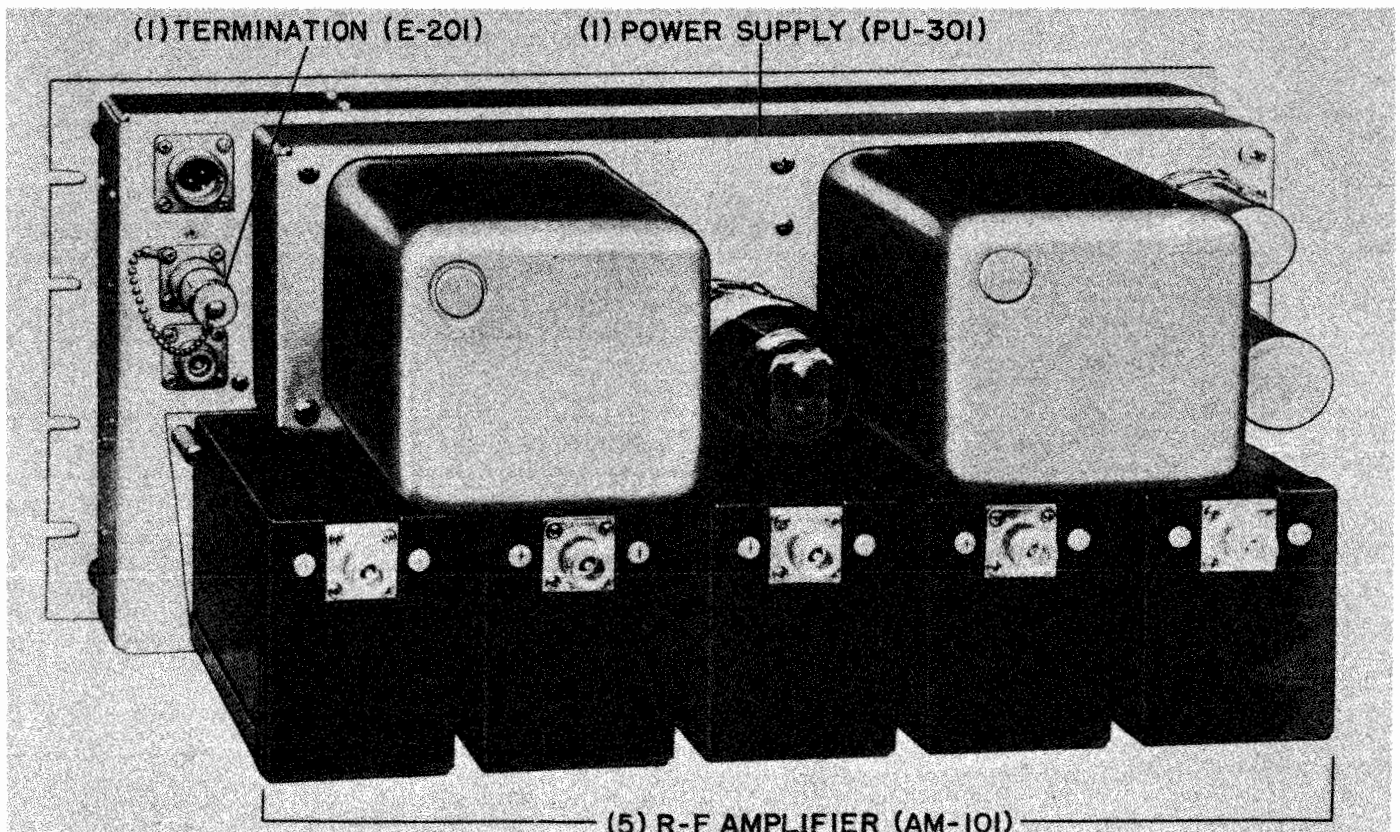

Figure 1-2. Antenna Coupler CU-168/FRR, Rear Oblique View
equipment. The front of the panel is finished in standard Navy gray enamel. Other chassis parts, with the exception of the r-f amplifiers, are finished in clear water-dip lacquer. The panel forms the cover of the main chassis, which in turn supports a number of plug-in subassemblies (see figure 1-2).
b. Each of the five r-f amplifiers (see figure 1-2) contains four type 12AU7 double-triode amplifier tubes and related components. Electrical connections are made when the amplifiers are mounted on the main chassis and secured with two captive screws. Connections to the communications receivers are made through the r-f connectors on the rear of each amplifier. Each amplifier has a dust cover which can be removed without interrupting operation of the equipment. The covers are finished in dull black lacquer. They are secured by two dzus fasteners located near jack J-101. The covers may be removed without interrupting operation of the equipment.
c. The power supply subassembly (see figure 1-2) contains a power transformer, type 5U4G rectifier tube, filter, and related components. The subassembly is retained on the main chassis by means of six captive screws. Electrical connections are completed when the power supply is mounted.
a. SINGLE ANTENNA COUPLER.-Install termination subassembly E-201 in receptacle J-203 (see figure 1-2). Secure by turning the plug retaining collar clockwise.